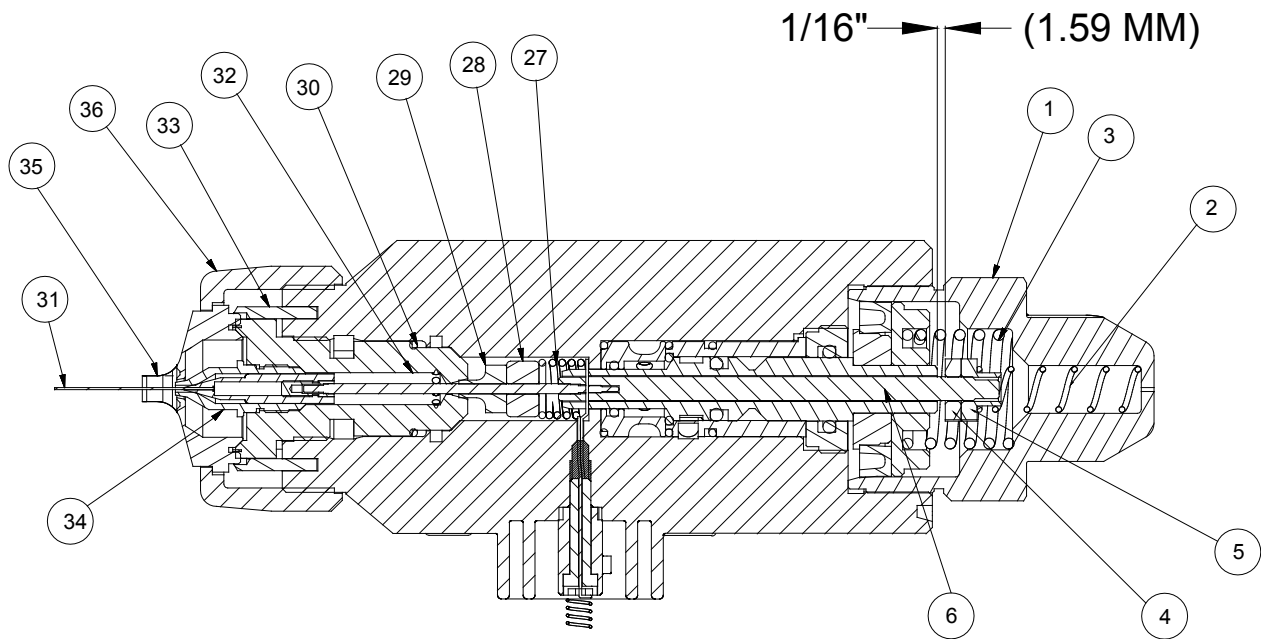

Figure 8: Spray Head Removal Assembly
(See Figure 8)
The spray head can be removed from assembly as shown in Figure 8 for cleaning and service.
SPRAY HEAD REMOVAL ASSEMBLY - PARTS LIST (Figure 8)
3. Inspect metal portion of the rear needle [6] for excessive wear. If wear is observed (longitudinal grooves or a noticeable reduction in diameter), replace the needle. Remove the two (2) lock nuts from the rear needle and save. When ever replacing rear needle section, you must also replace the seal [29] at the same time.
7. Insert the lubricated o-ring [30] into the gun head. Gently push, with small flat object, down upon its seating edge. Be careful not to push o-rings into fluid groove (see Figure 8).
11. Reinstall the two (2) lock nuts [4] and [5] in the correct order on the back needle as shown making sure to maintain an 1/16" clearance (see Figure 8).